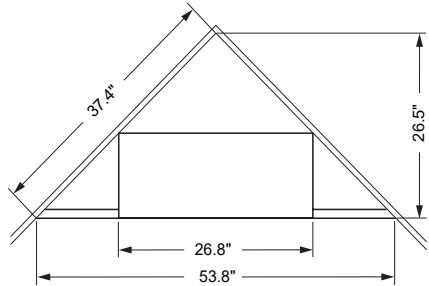

Figure 9 - Rough Opening for Corner Installation
1. Frame in rough opening. Use dimensions shown in Figure 6 (page 11) for the rough opening. If installing in a corner, use dimensions shown in Figure 9 (page 11) for the rough opening. The height is 26 1/2", which is the same as the wall opening above.